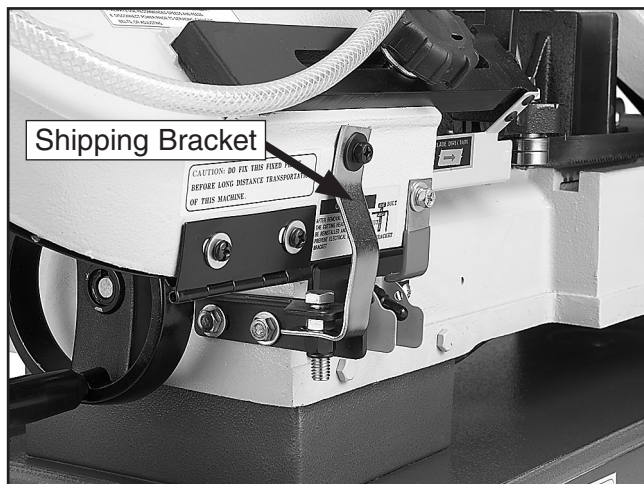

Figure 5. Removing shipping bracket.
1. Use a #2 Phillips head screwdriver to remove the top screw and flat washer, use a 14mm wrench to loosen the bottom hex nut and remove the shipping bracket shown in **Figure 5**.